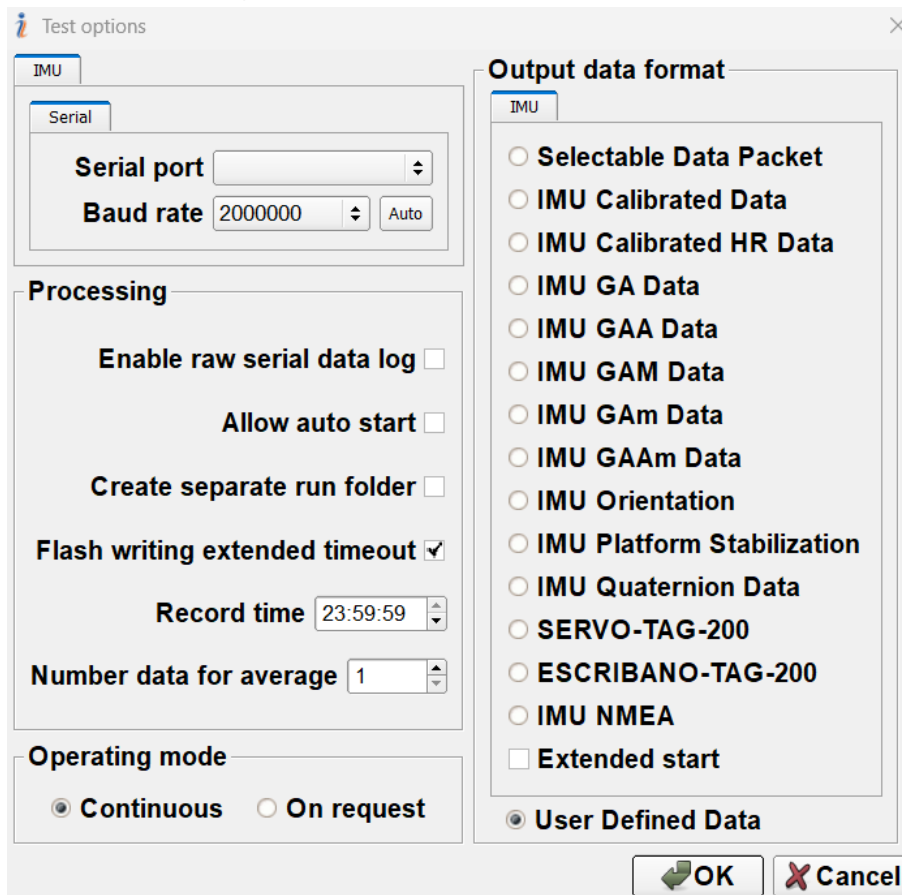

Fig. 3.1. Test Options Menu with Flash writing extended timeout selected.
3. In the “Test Options” menu, make sure that “Flash writing extended timeout” is selected as shown in Fig. 3.1 below.